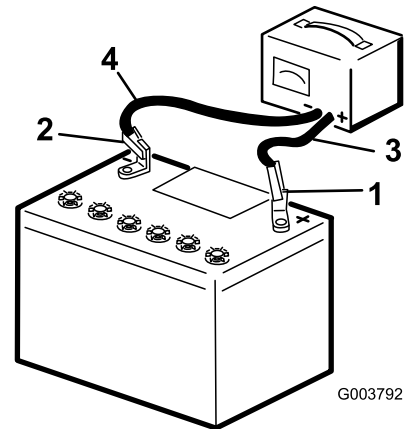

Figure 41
2. Charge the battery at a rate of 3 to 4 A for 4 to 8 hours (Figure 41). Do not overcharge the battery.
3. When the battery is fully charged, unplug the charger from the electrical outlet, then disconnect the charger leads from the battery posts (Figure 41).
1. Using the fasteners previously removed, install the positive (red) battery cable to the positive (+) battery terminal (Figure 41).
3. Using the fasteners previously removed, install the negative (black) battery cable to the negative (-) battery terminal (Figure 41).
4. Secure the battery using the bar and wing nuts (Figure 41).